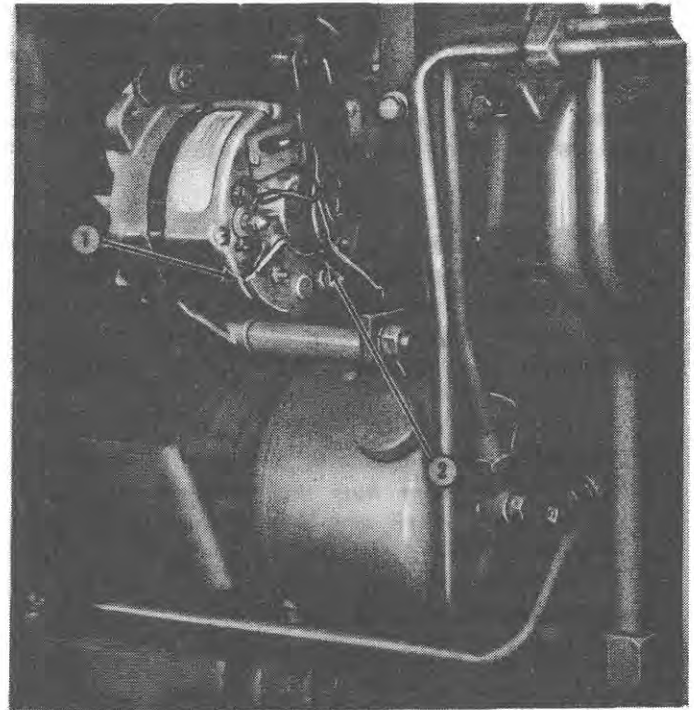
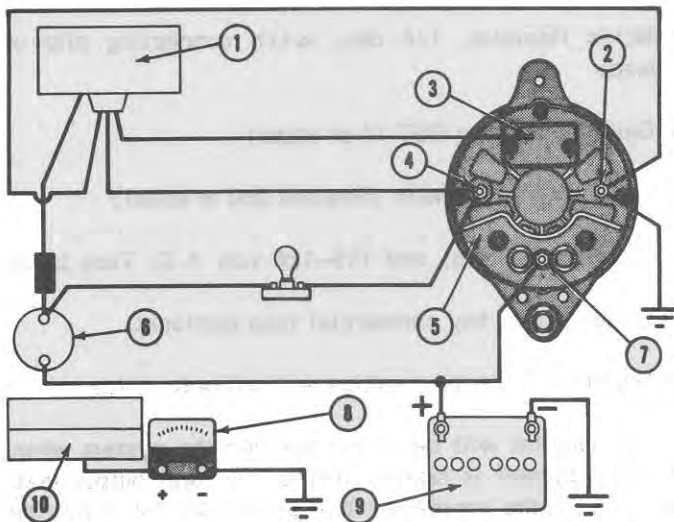

Figure 16
Figure 15
1. This test will determine if the tractor battery is properly installed and if the isolation diode is functioning properly by keeping battery voltage off of the alternator auxiliary terminal, Figure 15. A shorted isolation diode will allow the battery to discharge through the voltage regulator. The charge indicator light will "burn" when the key is off if the isolation diode is shorted.
2. Connect the voltmeter negative lead to ground and the positive lead to the output terminal at the isolation diode heat sink, Figure 15. The voltmeter should indicate battery voltage.
3. Move the positive voltmeter lead to the auxiliary terminal, Figure 15. The voltmeter should read zero volts, If the voltmeter continues to indicate battery voltage, either the isolation diode is shorted, or the output lead is contacting the isolation diode heat sink, Figure 16, allowing battery current to bypass the isolation diode. Loosen the nut and reposition the output lead if necessary.